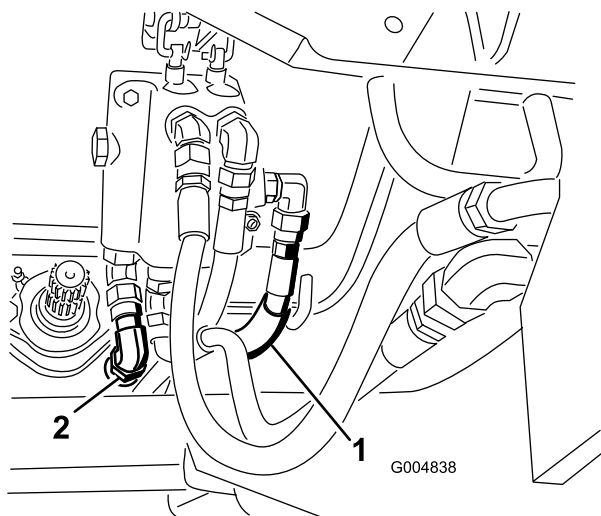

Figure 119
29. Connect the hydraulic pressure and tank hoses to the valve (Figure 119). Retain the hose plugs for the summer change over.